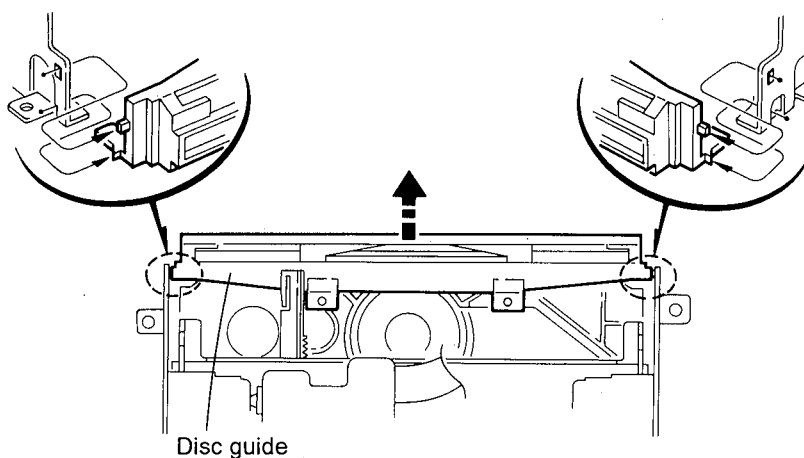

Fig. 4-19
9. Remove the disc guide in the arrow direction (See Fig. 4-19).
7. Mount the disc guide on the frame (See Fig. 4-19).